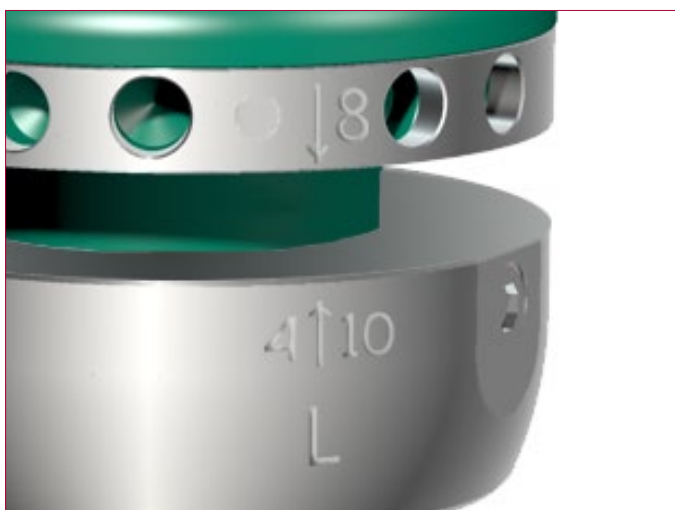

Figure 45
- ▶ In the example provided in Figure 45 & 46, a 8mm thick X3 Humeral Insert would be used with a 10mm thick Humeral Cup, in a left (L) shoulder.